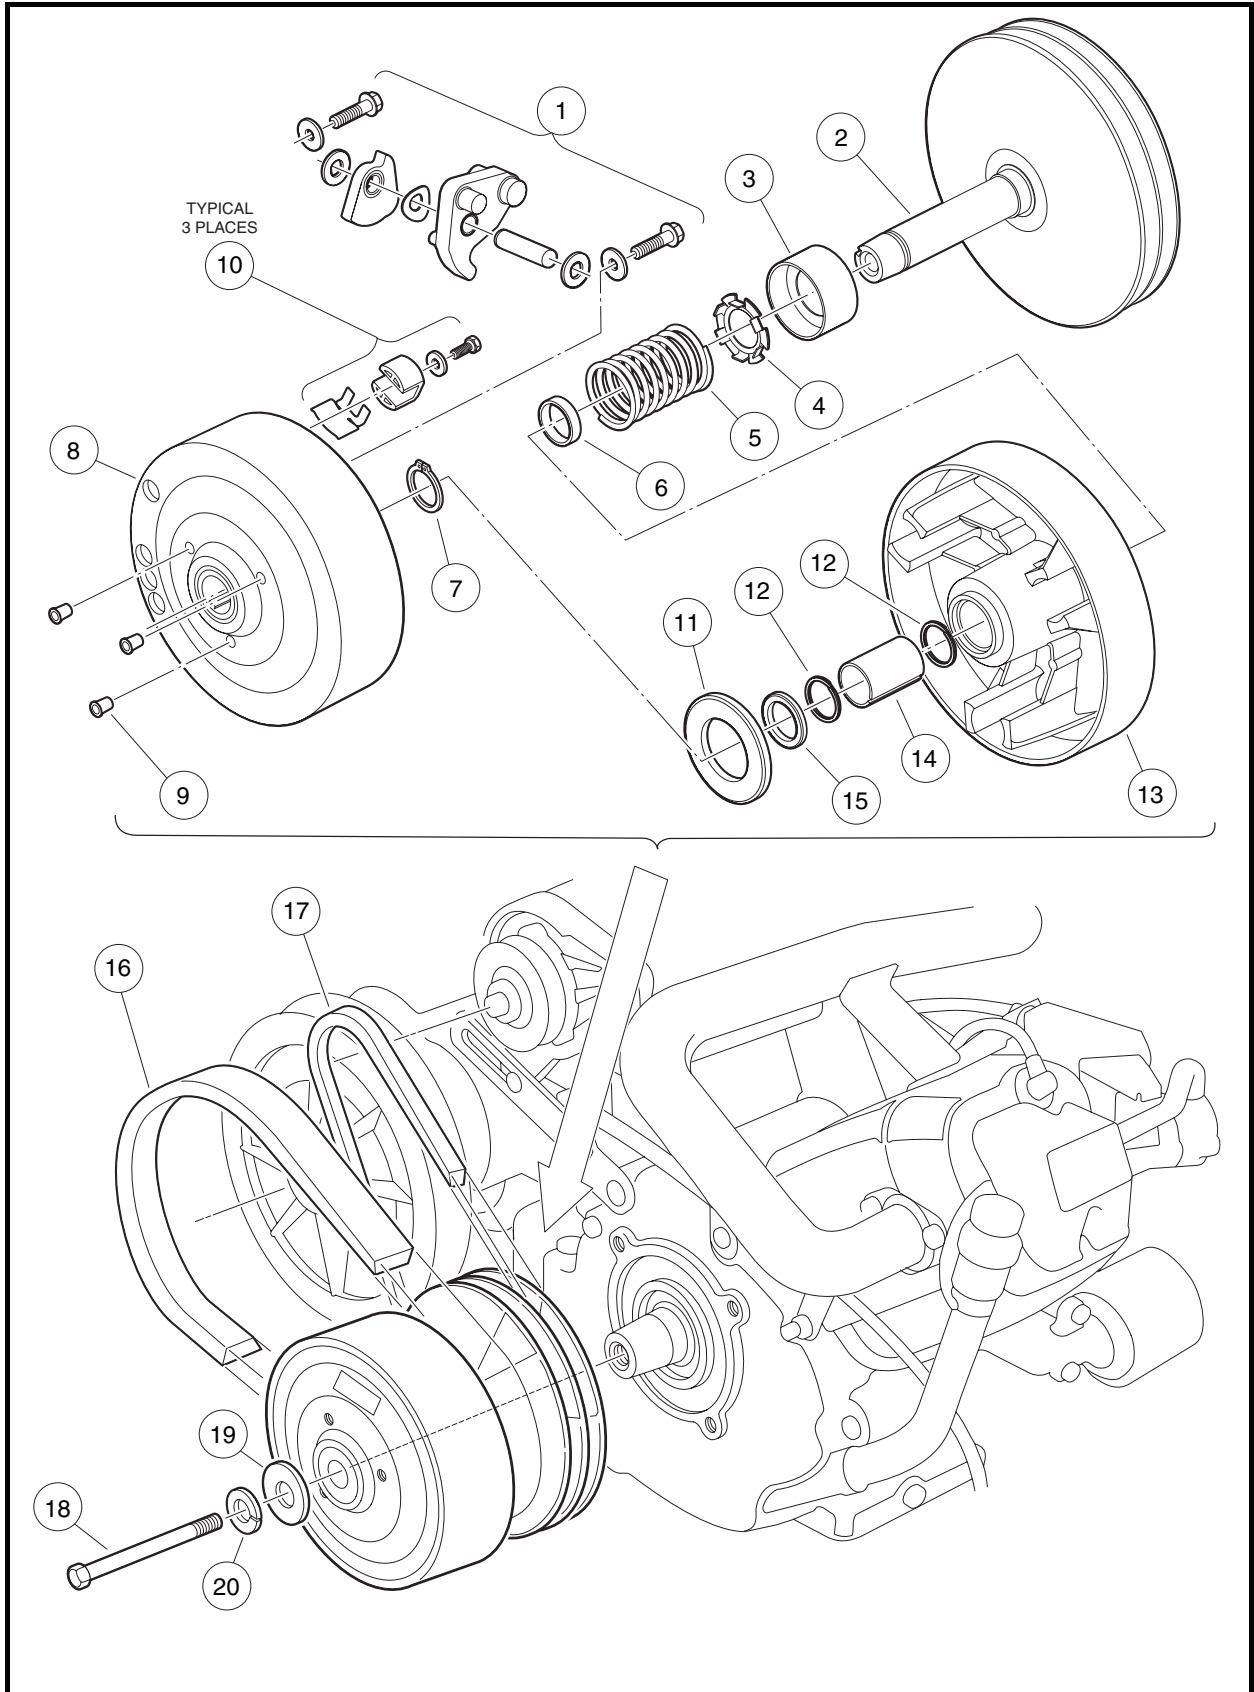
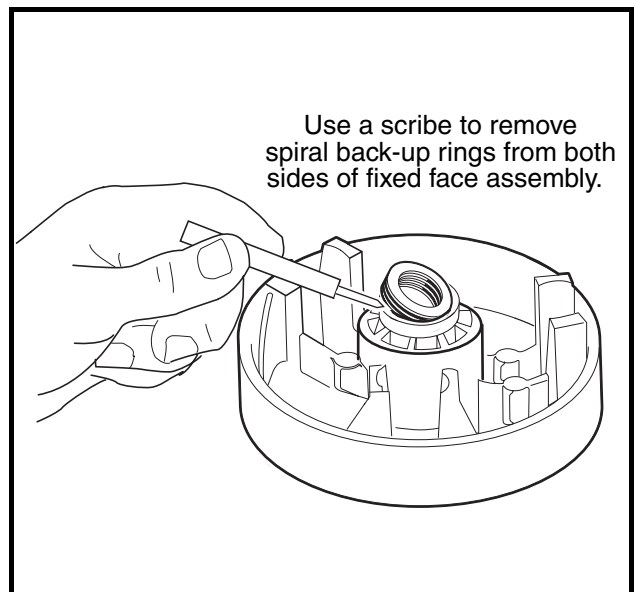
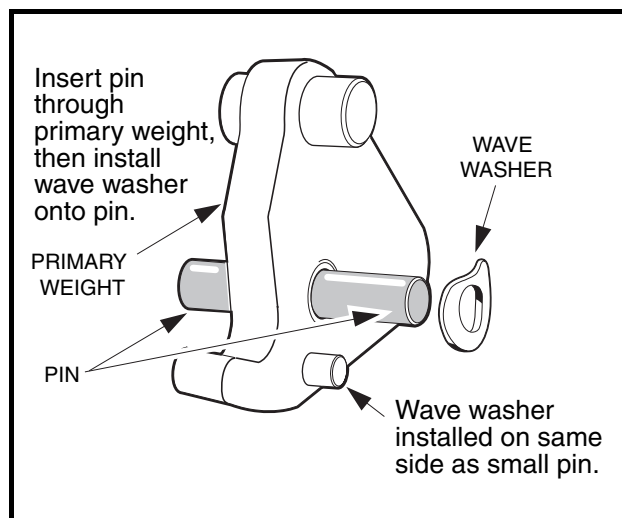
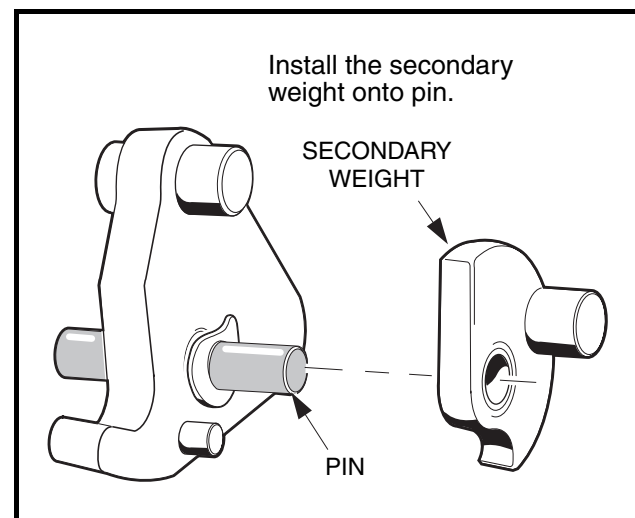

Figure 17-7 Drive Clutch Assembly
Figure 17-11 Spiral Back-up Rings
Figure 17-12 Install Pin and Washer
Figure 17-13 Install Secondary Weight
3. If cleaning both clutches does not solve the problem, disassemble and thoroughly clean all parts in the drive clutch. Be sure to clean the plastic drive buttons (10) **(Figure 17-7, Page 17-8).**
6. Remove the drive clutch retaining bolt (18), lockwasher (20) and mounting washer (19) (**Figure 17-7, Page 17-8**).
- Use only a dry cloth to lightly wipe the shaft (2) of the fixed face assembly (Figure 17-7, Page 17-8). Do not use a brush or steel wool. These will damage the surface of the shaft.
2. Remove the clutch drive hub (8) (Figure 17-7, Page 17-8).
- 2.1. Remove the three plastic plugs (9) from the clutch puller attachment holes in the drive hub (8) (Figure 17-7, Page 17-8).
- 2.4. Unscrew the hub puller center bolt from the clutch, forcing the stop nut up against the puller plate, lifting the drive hub (8) from the fixed face shaft (2) (Figure 17-7, Page 17-8).
3. Remove the thrust washer (11) from the moveable face (13).
- 5.3. Remove the plastic washers, weights and wave washer from the pins. Before removing, note the orientations of the wave washer and of the primary and secondary weights to one another (**Figure 17-12, Page 17-10 and Figure 17-13, Page 17-10**). Retain all parts.
6. Remove the retaining ring (7) from the shaft of the fixed face assembly (2) and slide the moveable face (13) off the shaft (**Figure 17-7, Page 17-8**). **See following NOTE.**
NOTE: *When the moveable face is removed from the hub of the fixed face, the spiral back-up rings (12) must be replaced with new ones at time of reassembly (**Figure 17-7, Page 17-8**).*
7. Remove the spacer (6), spring (5) and retainer (4). The spring retainer (4) can be removed from the spring if necessary (**Figure 17-7, Page 17-8**).
9. Use a scribe or small pick to remove the spiral backup rings (12) from each end of the bore in the fixed face assembly (**Figure 17-7, Page 17-8**). **See also Figure 17-11, Page 17-9.** Discard the rings.
1. Inspect the idler bearing (3) for smooth rotation or seal damage (**Figure 17-7, Page 17-8**).
2. Inspect the bore of the moveable face assembly (13) for scarring or wear. The moveable face assembly must be replaced if the bore is worn to a diameter of 0.883-inch (22.4-mm) or larger (**Figure 17-7, Page 17-8**).
3. Inspect the steel shaft (2) on the fixed face assembly. There should be no noticeable wear anywhere on the shaft. Replace the shaft if it is worn, scratched, or damaged.
4. Inspect the thrust washer (11) for wear. If it is worn more than 0.030-inch (0.76-mm), turn it over or replace it with a new one.
5. Inspect the primary weights and the hub casting for wear. If the primary weights show signs they are touching the casting, the tips of the weights have worn beyond specification and they must be replaced (**Figure 17-12, Page 17-10**).
1. Press idler bearing (3) onto the shaft of the fixed face assembly (2). Press on the inner race of the bearing only. Make sure that the cup side of bearing is facing away from the fixed face (**Figure 17-7, Page 17-8**).
2. Use a needle nose pliers to install the spring retainer (4) onto the spring (5).
3. Install the spring (5) and retainer (4) into the cup of the idler bearing (3).
4. Install the spacer (6) onto the shaft of the fixed face.
5. Install a new spiral backup ring (12) in each end of the bore of the moveable face assembly (13).
6. Install the moveable face assembly (13) onto the shaft of the fixed face assembly (2). **See following CAUTION.**
- 6.2. Install the retaining ring (7) (**Figure 17-7, Page 17-8**).
7. Install the primary weights on the mounting pins (**Figure 17-12, Page 17-10**).
8. Install a wave washer on each mounting pin. Make sure that the concave side of the washer faces the side of the primary weight with the small guide pin protruding from it (**Figure 17-12, Page 17-10**).
9. Install the secondary weights onto the mounting pins with the weight pins on the secondary weights pointing away from the primary weights. The wave washers should be between the primary and secondary weights (**Figure 17-13, Page 17-10**).
12. Install the 1/4-20 screws and washers (1) and tighten them to 10 ft-lb (13 N·m) (**Figure 17-7, Page 17-8**). See following **NOTE**.
16. Install the thrust washer (11) onto the moveable face assembly (**Figure 17-7, Page 17-8**).
17. Install the hub assembly (8) on the moveable face assembly and align the match marks made before disassembling the clutch. Press the hub assembly on by hand.